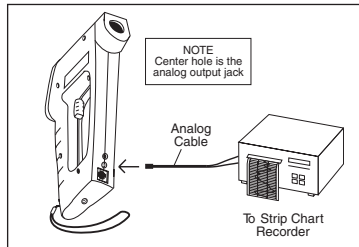

Figure 2-11 Recorder Hookup
4. To record the temperature profile across the surface, connect the IR thermometer to a strip chart recorder. Refer to Figure 2-11 for details. The IR thermometer provides an analog output of 1 mV/degree. (0.5 mV/Deg on OS524E)
4. To record the temperature profile of the moving surface, connect the IR thermometer to a strip chart recorder. Refer to Figure 2-11 for details.
2. Connect the analog output of the thermometer to a strip chart recorder as shown in Figure 2-11.